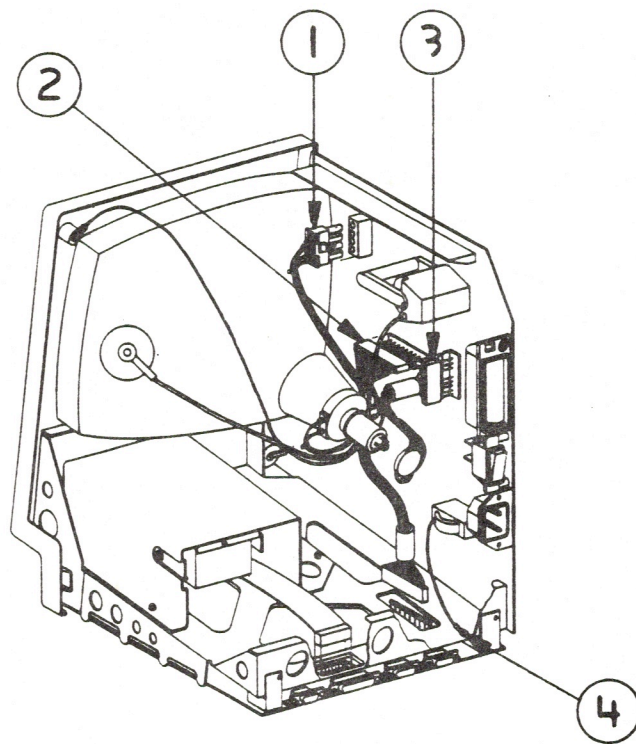

FIGURE 4
3. Depress the tab on the yoke cable and unplug it (Figure 4, #1).
4. Remove the main logic cable from the power/sweep board (Figure 4, #2).
5. Remove the neck connector from the power/sweep board (Figure 4, #3).
6. Turn the computer upright and remove the screw, lockwasher, and ground wire at the bottom of the chassis (Figure 4, #4).